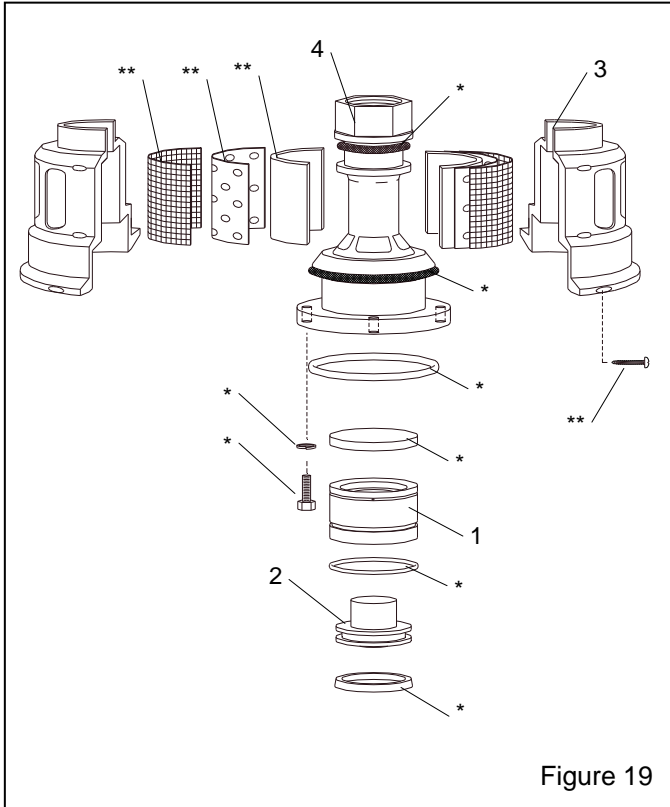

Figure 19
8.7 Millennium Valve Outlet Segment, Figure 19